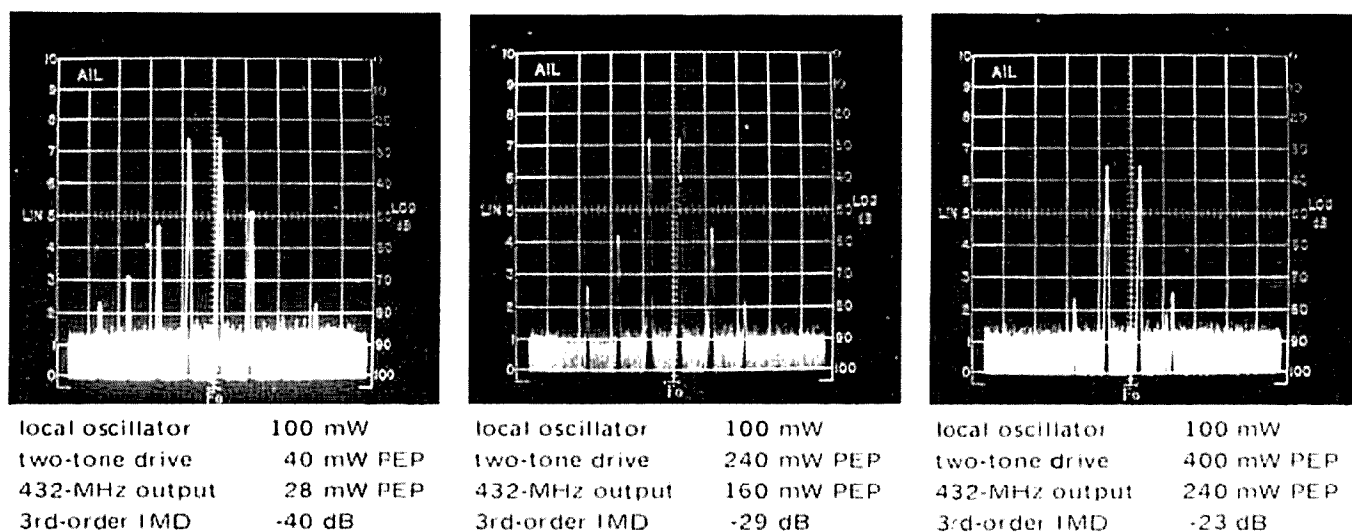

fig. 6. 6939 mixer intermodulation distortion at various power levels.
*The intermodulation distortion figures given here were measured in accordance with standard commercial practice: in reference to one of the two test tones. Amateurs normally measure intermodulation distortion in respect to peak envelope power; this yields IM figures 6 dB better than commercial practice. To compare these IM figures with other amateur radio articles you must increase the IM figure by 6 dB. In this case, 20 dB becomes 26 dB.
marized in fig. 6. The 6939 mixer, when operated according to table 2, with 240 mW PEP 50-MHz drive, is capable of 150 mW PEP output; IMD under these conditions is 30-dB down.